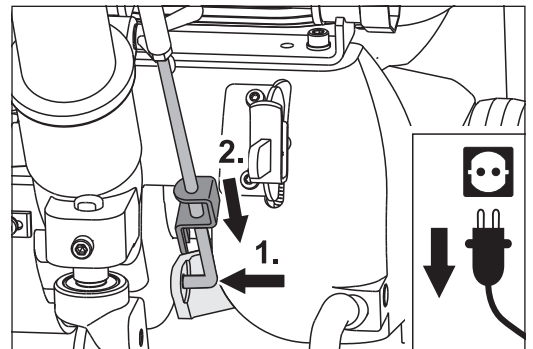

Fig. 3 Put the lower rod in the hole of the lifting fixture (1.) and fix them with the closure (2.).
- 3 Put the lower rod in the hole of the lifting fixture (Fig. 3, 1.) and fix them with the closure (Fig. 3, 2.).